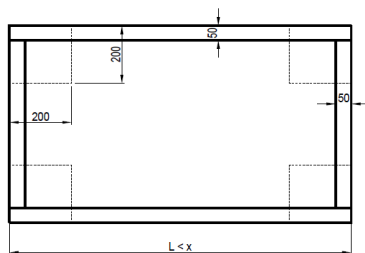
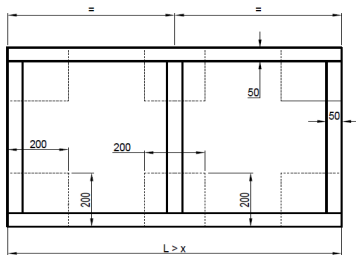

Fig. 25 AHU on a frame
Fig. 26 The frame for AHU unit consisting of one monobloc with support
b) for units (small where feet may be present but with a frame) the support must not be smaller than 200x200mm and located on the outer ends of the frame and in the middle of its length (in place of the central crossbar) Fig. 25, Fig. 26